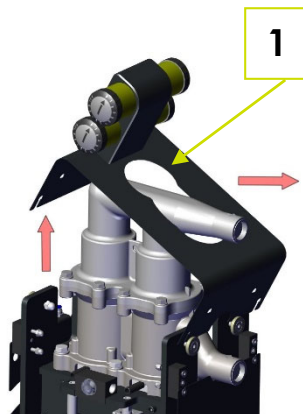

Fig. 4-6: Dismounting the top cover
5. Dismount the top cover (1) in the direction of the arrow (Fig. 4-6: Dismounting the top cover).